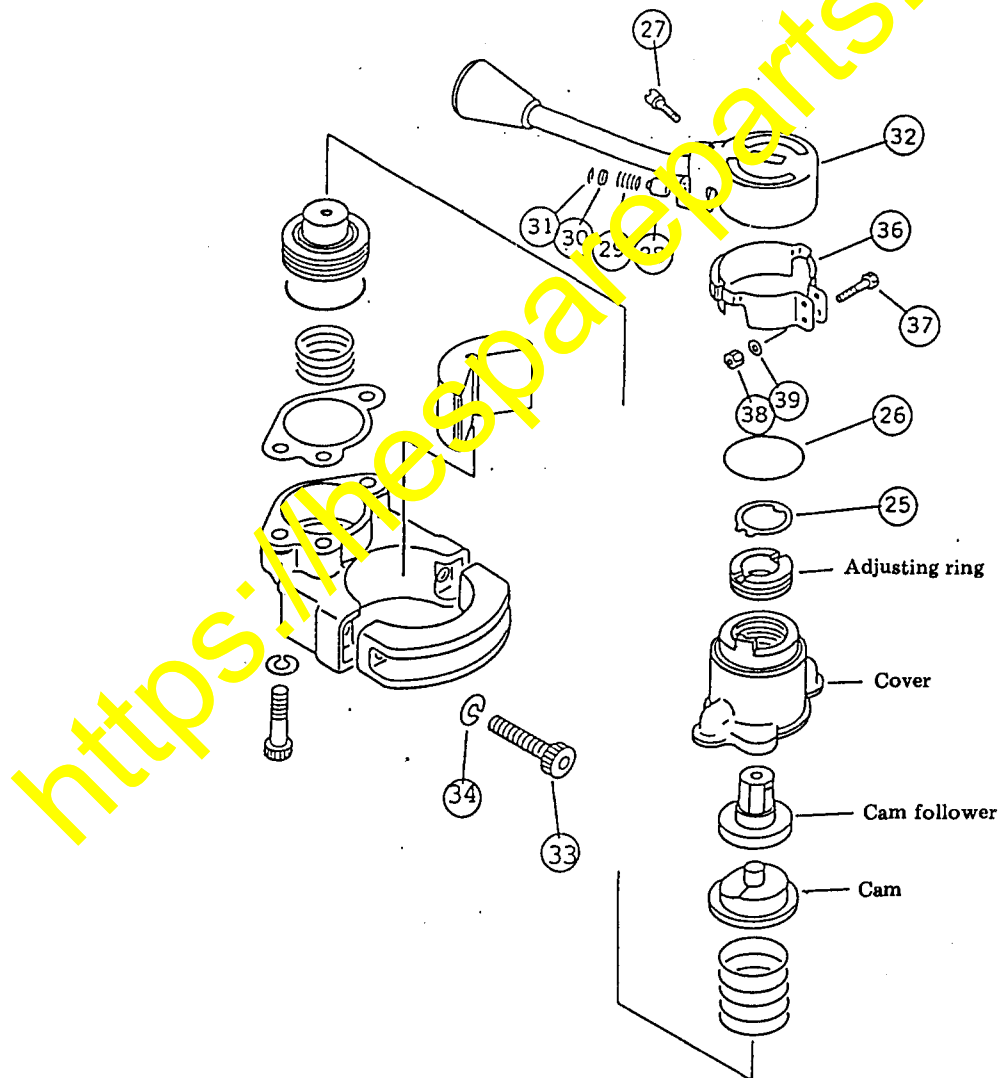

Fig. 2 Parts to be removed
## (1) Removal of parts (See Fig. 2.)